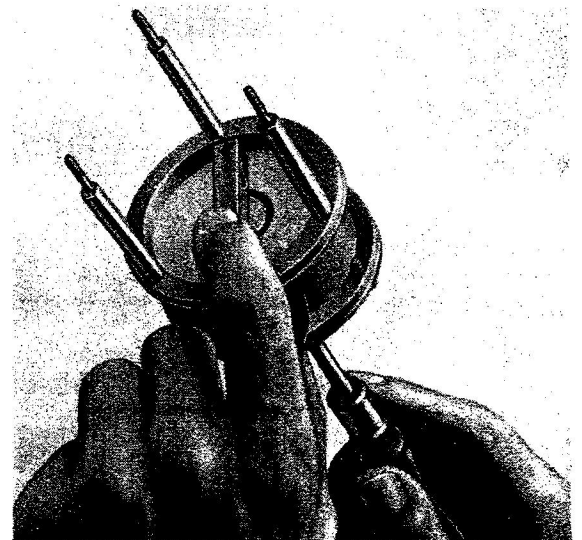
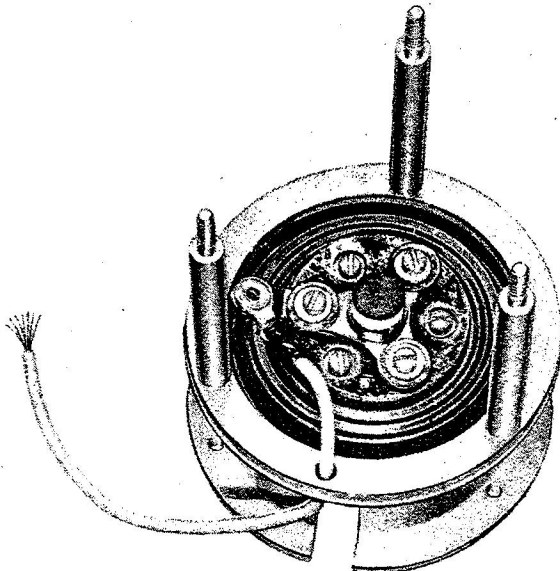

Figure 2-7. Aligning Core Flush with Magnet Case
Figure 2-8. Alignment of Armature Assembly in Magnet Case
d. Align screw holes in end plate (39) and magnet case (51). Assemble screw (40), lock washer (41), and washer (42) in hole directly opposite slot in magnet case.
e. Adjust core (43) so that it is flush with bottom of armature assembly recess of magnet case (51). (See figure 2-7.) Then tighten core locking screws (44).
f. Carefully insert free end of lead of armature assembly (28) through hole in rim of magnet case (51), from side nearest studs (52). Push approximately half of lead through hole.
g. Place magnet case and studs assembly (50) on a flat surface so that studs (52) are pointing upward. Place packing shim (37) in bottom of magnet case recess.
h. Press silver-coated end of a new contact plug (29) into ferrule of armature assembly (28). Use a clean piece of paper to protect contact plug when handling it and when pressing it into ferrule. Assemble armature assembly (28) in magnet case recess so that contact plug (29) points up. Align armature so that tip of ferrule to which red lead is fastened lies at approximately 130 degrees from lead hole in magnet case rim. (See figure 2-8.)
i. Slide carbon pile tube (21) into carbon pile housing (24) and fasten two clips (23) to housing with screws (22).
j. Thread adjusting screw (8) into adjusting screw plate (10). If screw sticks or jams during assembly, correct condition by cleaning any possible metal particles from screw threads with a scribe or knife point. Pencil lead rubbed on threads will act as a lubricant to prevent seizure. Assemble adjusting screw spring (16) tightly on threads of adjusting screw. Then back off spring just until holes in spring line up with holes in plate. This position will provide minimum locking effect of spring. Additional locking effect can be obtained by backing off spring an additional one-third turn.